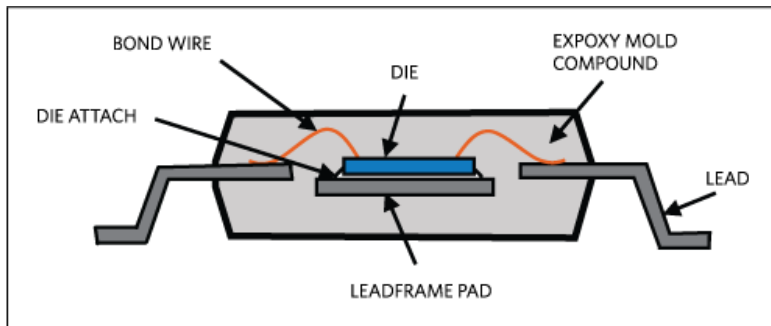

Figure 1. Cross-section view of leaded package.
Leaded packages are surface-mount integrated circuit (IC) packages, including such types as quad flat package (QFP), small outline integrated circuit (SOIC), thin shrink small-outline package (TSSOP), small outline transistor (SOT), SC70, etc. The standard form is a flat rectangular or square body, with leads extending from two or all four sides. The leads are formed in a gull wing shape to allow solid footing during assembly to a PCB. Standard Pb-free lead finish is matte tin. Connection is made through the leads of the package, which can be directly soldered onto the PCB. When an exposed pad is provided in some packages for thermal enhancement purposes, the exposed pad should be directly soldered onto the PCB. **Figure 1** shows the cross-section profile of a leaded package.